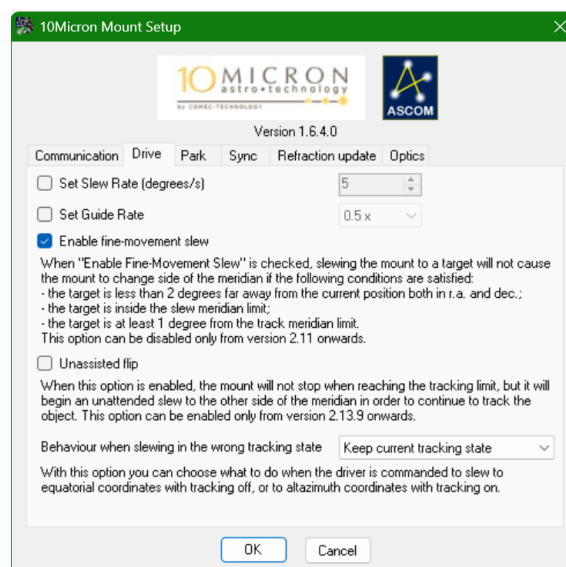

Figure 2.2: Drive settings of the 10Micron driver.
- Slew settings on drive fig. 2.2 in deg/s, according to Dr Amato max 15deg/s but I read never above 10 on the manual?